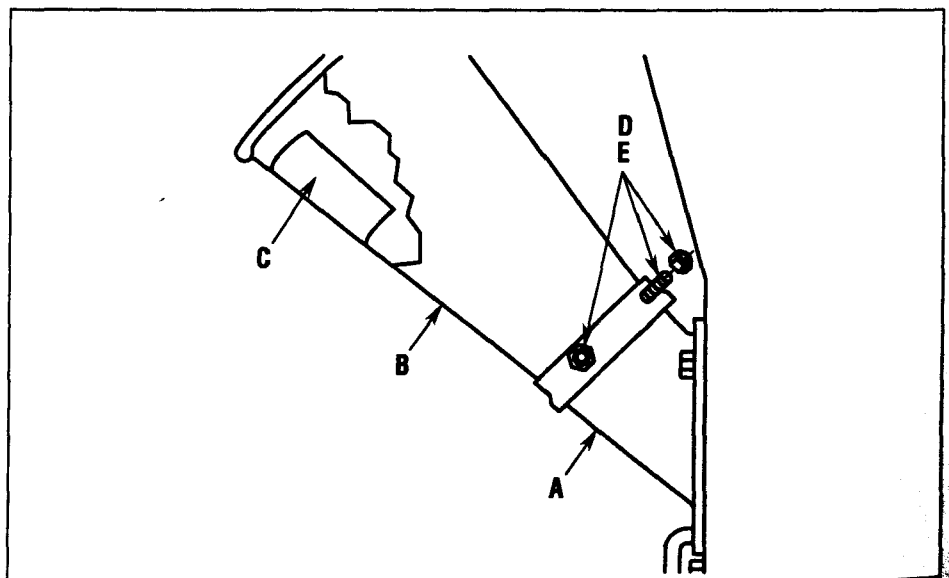

Figure 2-2: Install chipper chute.
1. Find the safety message decal (C, Figure 2-2) located inside the large opening of the chipper chute (B).
**IMPORTANT:** The chute must be installed so that the safety message decal (C) can be read when the operator looks down into the chute.
2. Insert the small end of the chipper chute (B, Figure 2-2) into the chipper chute mounting base (A) and align the four square holes in the chipper chute with the four round holes in the mounting base. Check that the safety message decal (C) is positioned as shown in Figure 2-2.
3. Reach inside the chipper chute and insert four 1/4"-20 x 5/8" round head carriage bolts (D, Figure 2-2) out through the four holes. Add 1/4"-20 toplock nuts (E) and tighten securely.